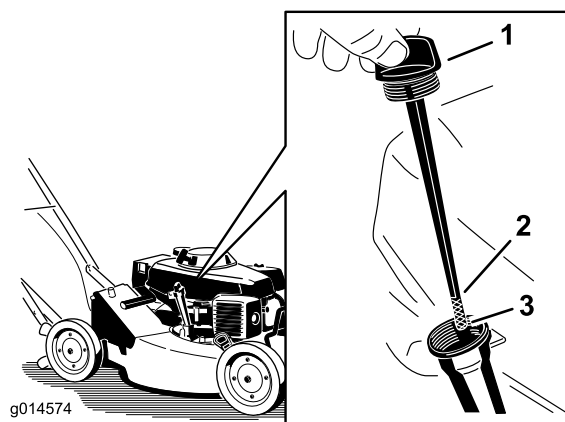

Figure 9
Before each use, ensure that the oil level is between the lower limit and upper limit marks on the dipstick (Figure 9).
2. Clean around the dipstick (Figure 9).